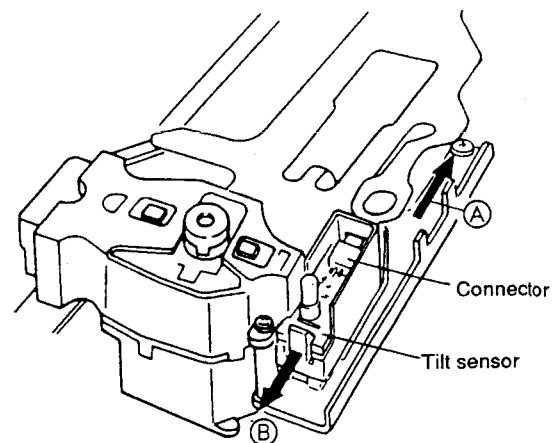

Fig. 7-9
**7.6 REMOVING THE TILT SENSOR (Fig.7-9)**
- ① Remove the connector (arrow A) of the flexible cable and release the claw (arrow B) to remove the tilt sensor.